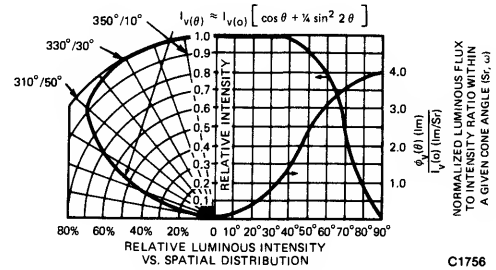

Fig. 2. Relative Luminous Intensity vs. Spatial Distribution
3. Solid angle (ω) subtended by the legend area (sr) (Figure 2).